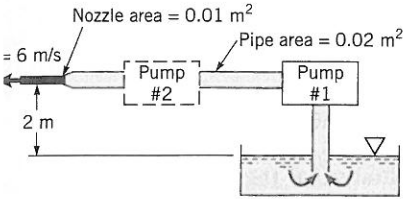

Figure P5.126
**5.126**  Water is to be pumped from the large tank shown in Fig. P5.126 with an exit velocity of 6 m/s. It was determined that the original pump (pump 1) that supplies 1 kW of power to the water did not produce the desired velocity. Hence, it is proposed that an additional pump (pump 2) be installed as indicated to increase the flowrate to the desired value. How much power must pump 2 add to the water? The head loss for this flow is  $h_L = 250 Q^2$ , where  $h_L$  is in m when  $Q$  is in  $\text{m}^3/\text{s}$ .
■ Figure P5.126
**126**  Water is to be pumped from the large tank shown in Fig. P5.126 with an exit velocity of 6 m/s. It was determined that the original pump (pump 1) that supplies 1 kW of power to the water did not produce the desired velocity. Hence, it is proposed that an additional pump (pump 2) be installed as indicated to increase the flowrate to the desired value. How much power must pump 2 add to the water? The head loss for this flow is  $h_L = 250 Q^2$ , where  $h_L$  is in m when  $Q$  is in  $\text{m}^3/\text{s}$ .